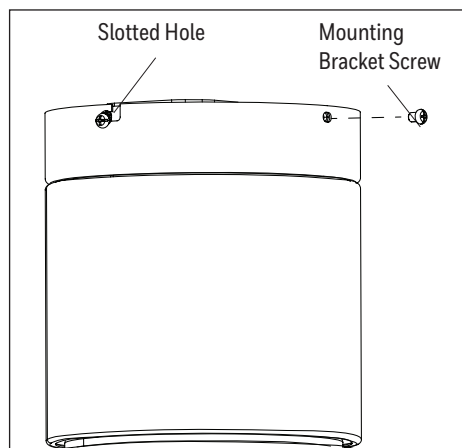

Figure 4.2
- Slide the top of the motor assembly over the mounting bracket, aligning the slotted holes in the top of the motor assembly with the pre-loosened mounting bracket screws in the mounting bracket. Twist the motor assembly clockwise to lock. Then, re-insert the mounting bracket screws and securely tighten all screws (Figure 4.2).